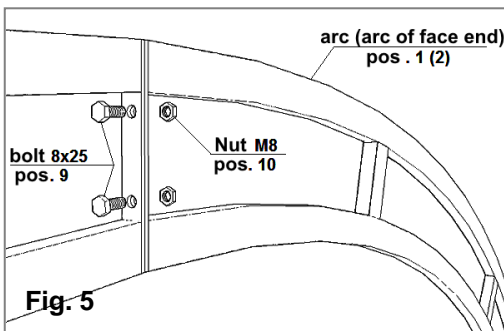

Fig. 5
5.3.1. Assemble the arcs using M8x25 mm bolts as shown in Figure 5.
5.1.1. Connect the face end arcs using M8x25 mm bolts, as shown in Figure 5.